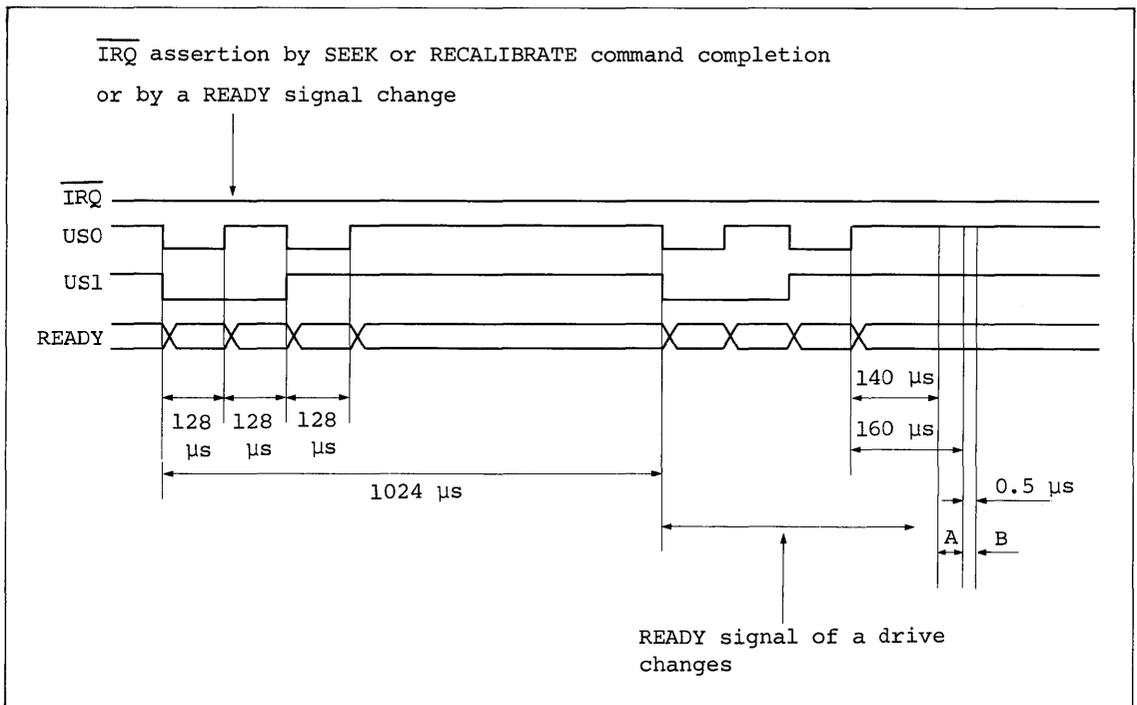

Figure 6-61. Command Rejection Timing 2
The FDC rejects commands other than ABORT if those commands are issued when READY signal inversion has been detected while  $\overline{\text{IRQ}}$  is asserted to request a CIS command initiated by SEEK or RECALIBRATE command completion or by a READY signal change. As shown by period A in figure 6-61, such commands are ignored for 20  $\mu\text{s}$  in 8-inch mode (40  $\mu\text{s}$  in 5-inch mode). In addition, during period B, which is the 0.5  $\mu\text{s}$  (1.0  $\mu\text{s}$  in 5-inch mode) after period A, the FDC accepts commands, but the BSY bit of the STR remains cleared. The BSY bit of the STR is set when the first-byte command parameter is written by the host system.
- Notes: 1. Figure 6-61 is the timing chart for 8-inch mode. For 5-inch mode, the periods must be doubled (e.g., 128  $\mu\text{s}$   $\rightarrow$  256  $\mu\text{s}$ , 1024  $\mu\text{s}$   $\rightarrow$  2048  $\mu\text{s}$ , and 0.5  $\mu\text{s}$   $\rightarrow$  1.0  $\mu\text{s}$ ).